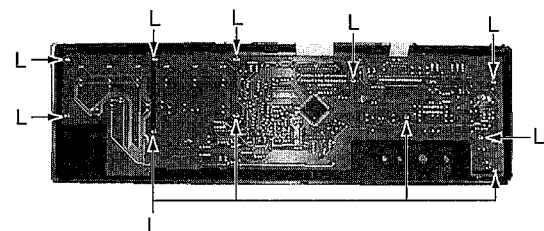

Fig.9
## (8) Front P.C.BOARD Removal (Fig.9)